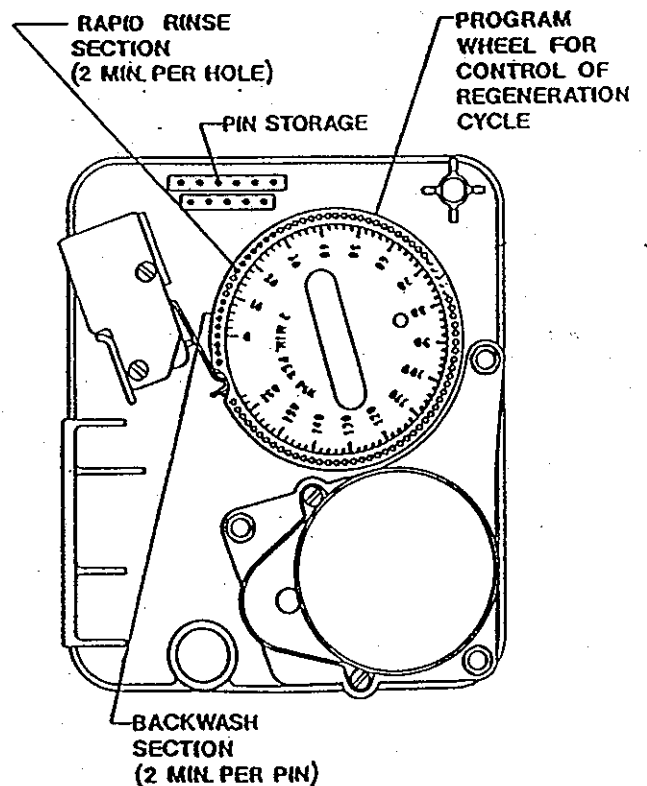

Figure 2
- A. With timer and valve in "Service" position, slowly rotate the regeneration knob clockwise until the motor runs and drive shaft goes into **backwash** position. You may wish to swing open the timer so that you can see which pin or hole section is engaging the outer microswitch. (Refer to Figure 2.) This determines which "mode" the control valve is in.
- C1. **For Manganese Greensand or MTM™ Filters :** Once a dark pink color is observed in the drain line water, position valve to "Service" position and allow to set for one (1) hour.
hole section is engaging the outer microswitch. (Refer to Figure 2.) This determines which *mode* the control valve is in.